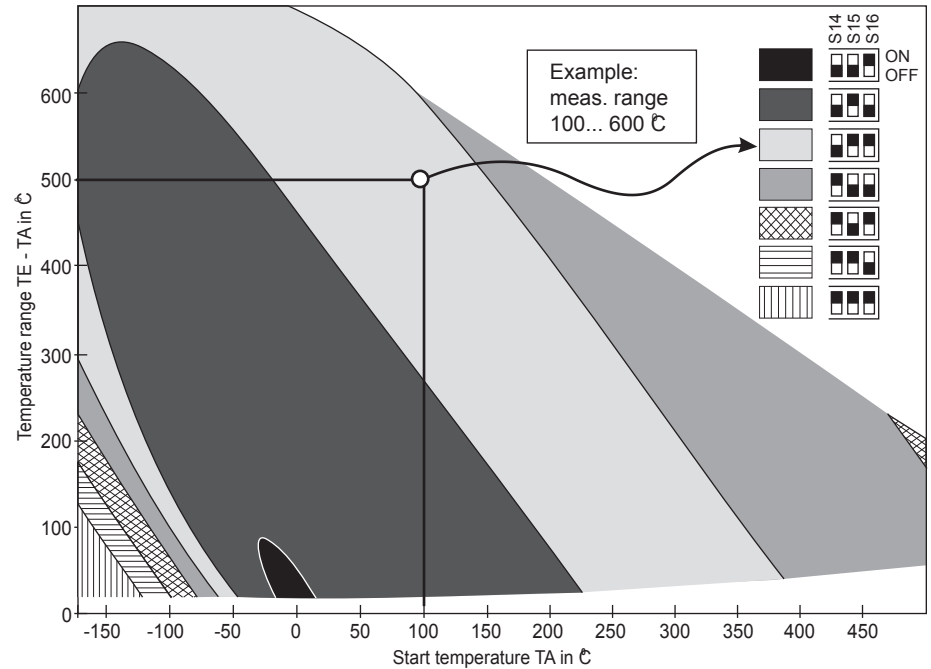

Fig. 9. Switch positions (S14...S16) for linearisation.
A switch combination has to be set to linearise the range that depends on the minimum value of the measuring range (TA) and the temperature range (TE - TA). Fig. 9 shows how the switch positions are determined for the example of a measuring range of 100...600C. The correct switch positions for this example are "OFF-ON-ON".